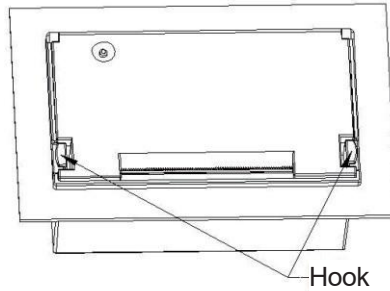

Fig. 2-2
(1) As shown in Figure 2-2, hold the two hooks indicated by arrows in the figure and pull them outward to open the upper cover of the printer.